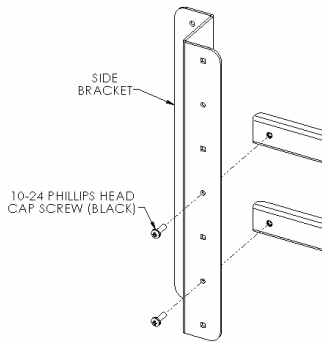
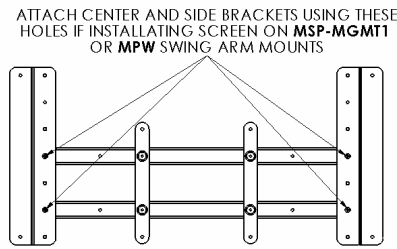

Figure 4
Figure 5a
3. **Side Bracket Assembly:** Attach center brackets to side brackets using black 10-24 phillips screws (see Figure 4 & Figure 5a or 5b). Use the circular holes for a 200mm X 100mm button pattern (used with MSP-MGMT1 and MPW mounts) or the square holes for a 200mm x 200mm button pattern (used with all other Chief Q-latch mid-range mounts).